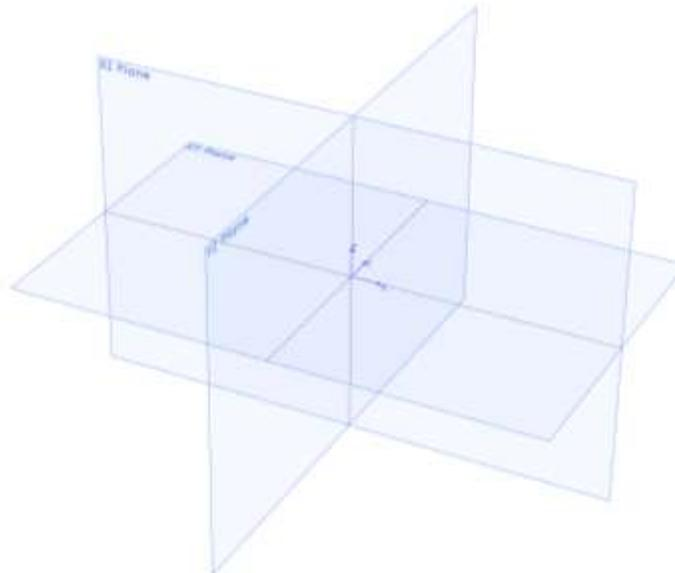

FIGURE 8 PLANES
**G17/G18/G19 – Plane Selection:** Arcs, circles and drill cycles require the selection of a plane. The three axes X, Y and Z define three available planes XY, ZX, and YZ, see figure 8. The third axis defines the top of the plane, this axis is also known as the normal see figure 9. Selection of a plane is done by specifying one of three G codes: G17 for XY, G18 for ZX and G19 for YZ. These are modal G codes and will stay active until another plane is selected or the system is reset. The default plane selection is G17.